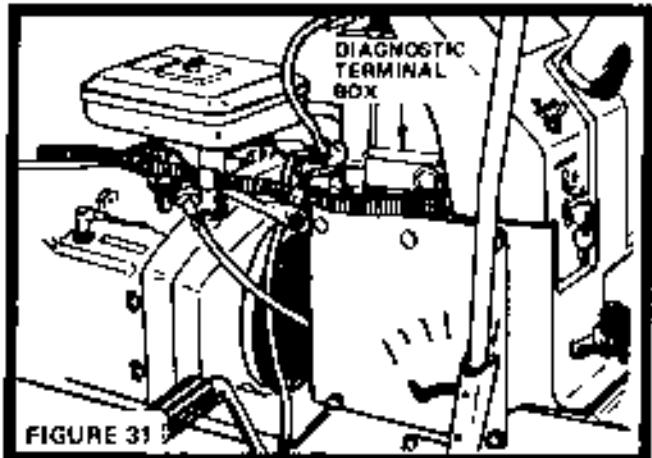

FIGURE 31
a. Your Tractor is equipped with a Tractor Diagnostic Terminal Box which is used to simplify electrical system diagnosis. The location of the Diagnostic Terminal Box is shown in Fig. 31. The Diagnostic Terminal Box provides access to a number of test points within the electrical system of the tractor.